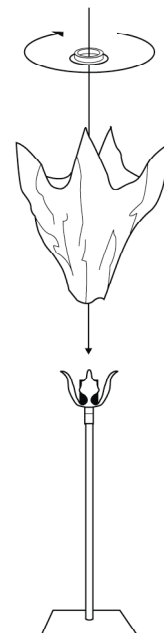

Figure 1
5. **(figure 1)** Screw down the ring onto the socket to secure the cage.